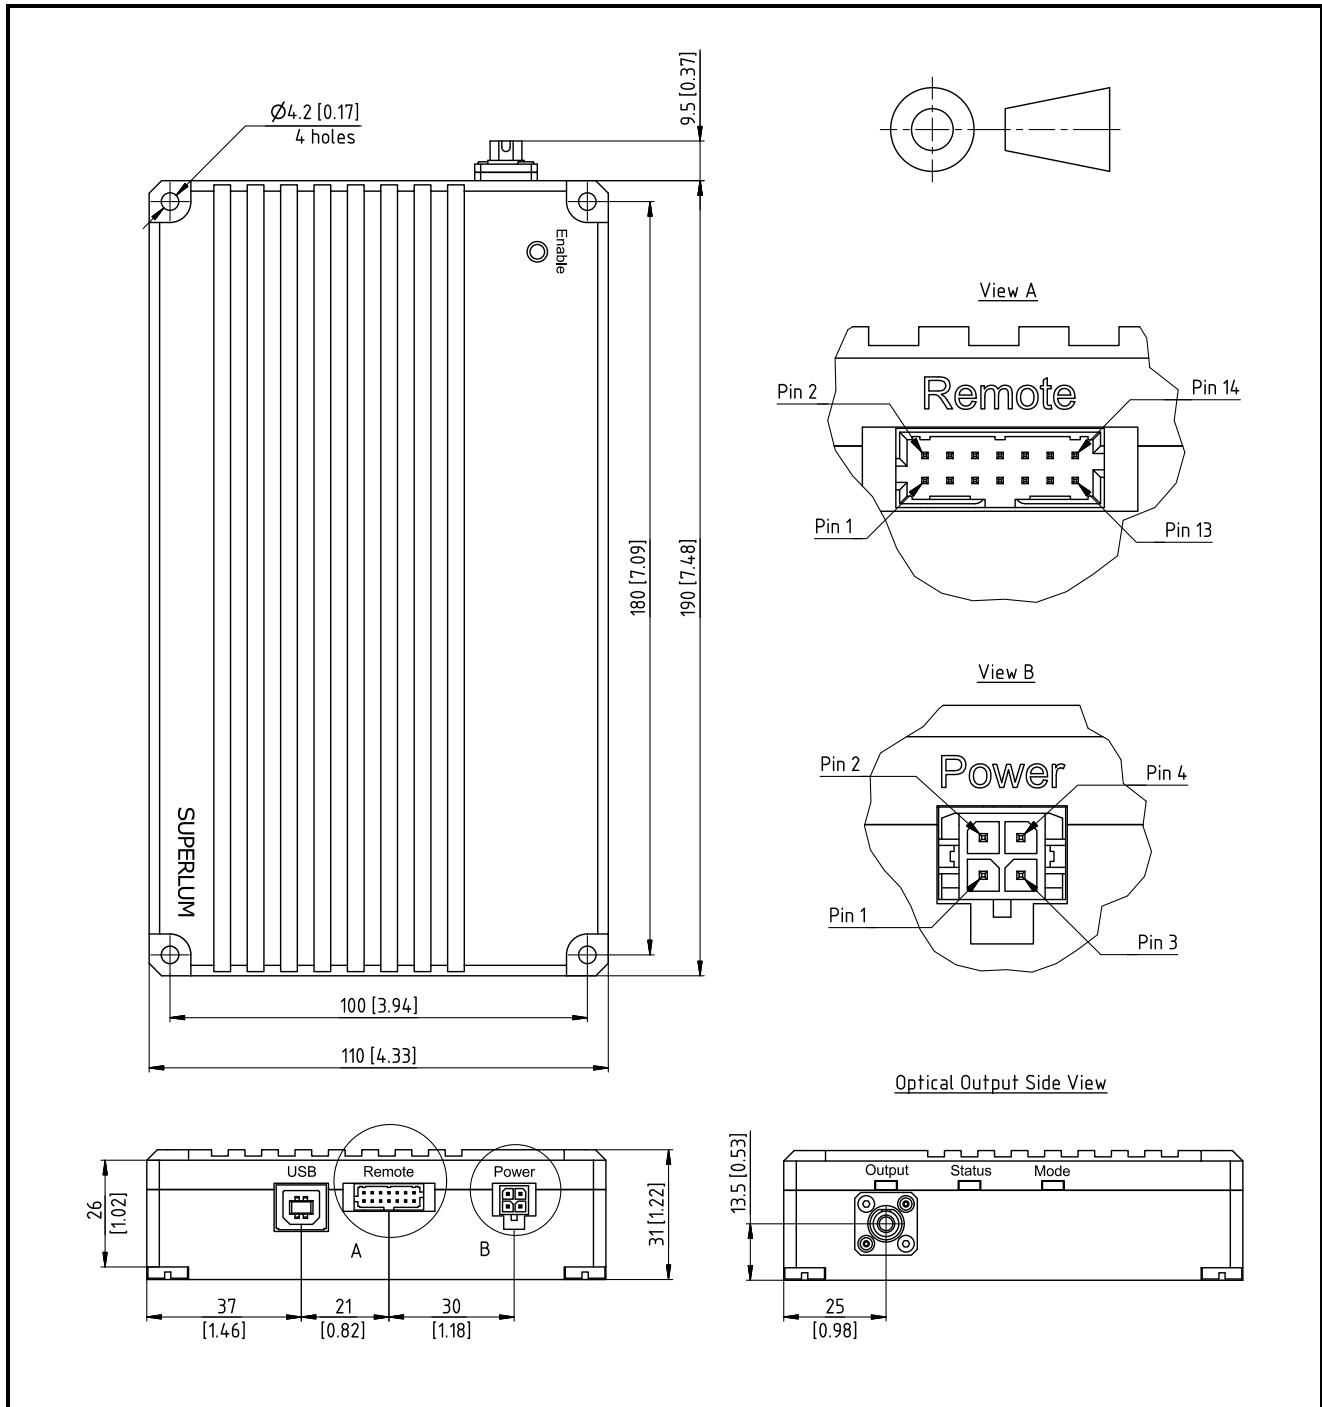

Figure 1. Drawings of Light Source. Dimensions are in millimeters [inches]
Temperature control is an important factor when considering where and how you will integrate this lightsource to your system. Ideally in order to ensure effective heat dissipation the Light Source should be mounted to an appropriate heatsink in any spatial orientation with 25mm of free space around the sides and cover to allow air circulation. The Lightsource should be anchored to a flat plate heatsink large enough to accommodate the entire footprint of the lightsource base, (*see section 1.4 above; Figure 1. Drawing of Light Source*) using the Four (4) anchoring holes. Mounting and using without a heatsink is possible, but will reduce the operating temperature range. Active air circulation system around the enclosure is in this case strongly recommended.